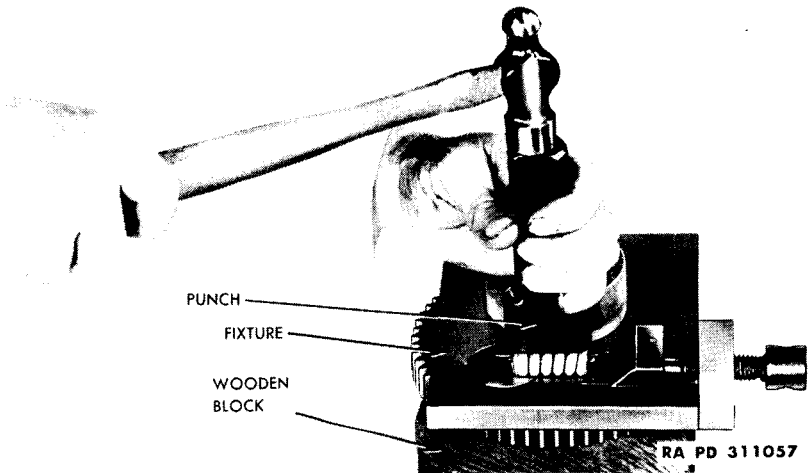

Figure 57 – Installing Spring and Retainer Pins, Using Fixture 5A2315
(3) **ASSEMBLE ACCESSORY DRIVE SHAFT** (fig. 57). Place accessory drive gear on accessory drive shaft and turn gear to engage internal lugs of gear with mating ears of shaft. Install spring and pin assemblies using fixture (5A2315).